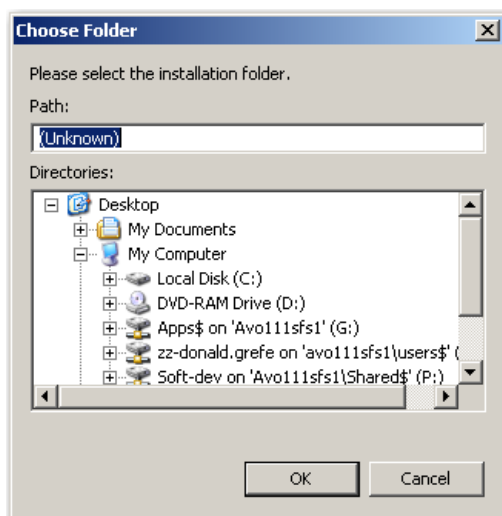

Figure 16 - Choose Folder
5. Click **Change** and the *Choose Folder* dialog appears (*Figure 16*).